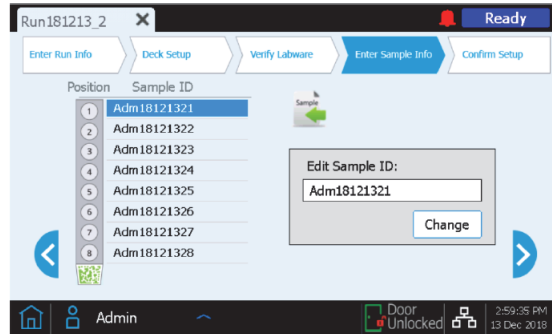

Figure 21. Edit Sample Info screen of the Magnis NGS Prep System; the Load samples button is highlighted with a circle.
- ◇ When setting up the run, on the *Enter Sample Info* screen, press the *Load samples* button (highlighted with a circle in Figure 21).